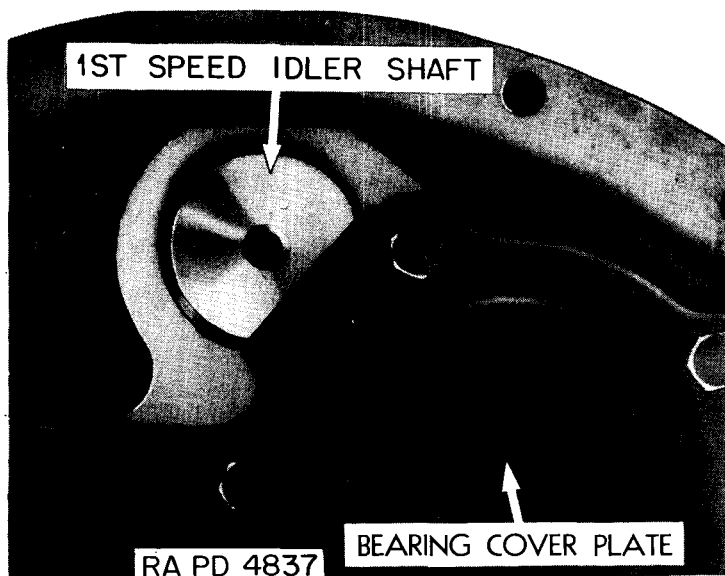

FIGURE 74 — FIRST SPEED IDLER SHAFT, EXTENDING THROUGH COVER PLATE
b. Procedure. — (1) Assemble transmission. — (a) Install first speed idler gear and shaft (figs. 74 and 76). Place transmission housing so that it stands front end up.